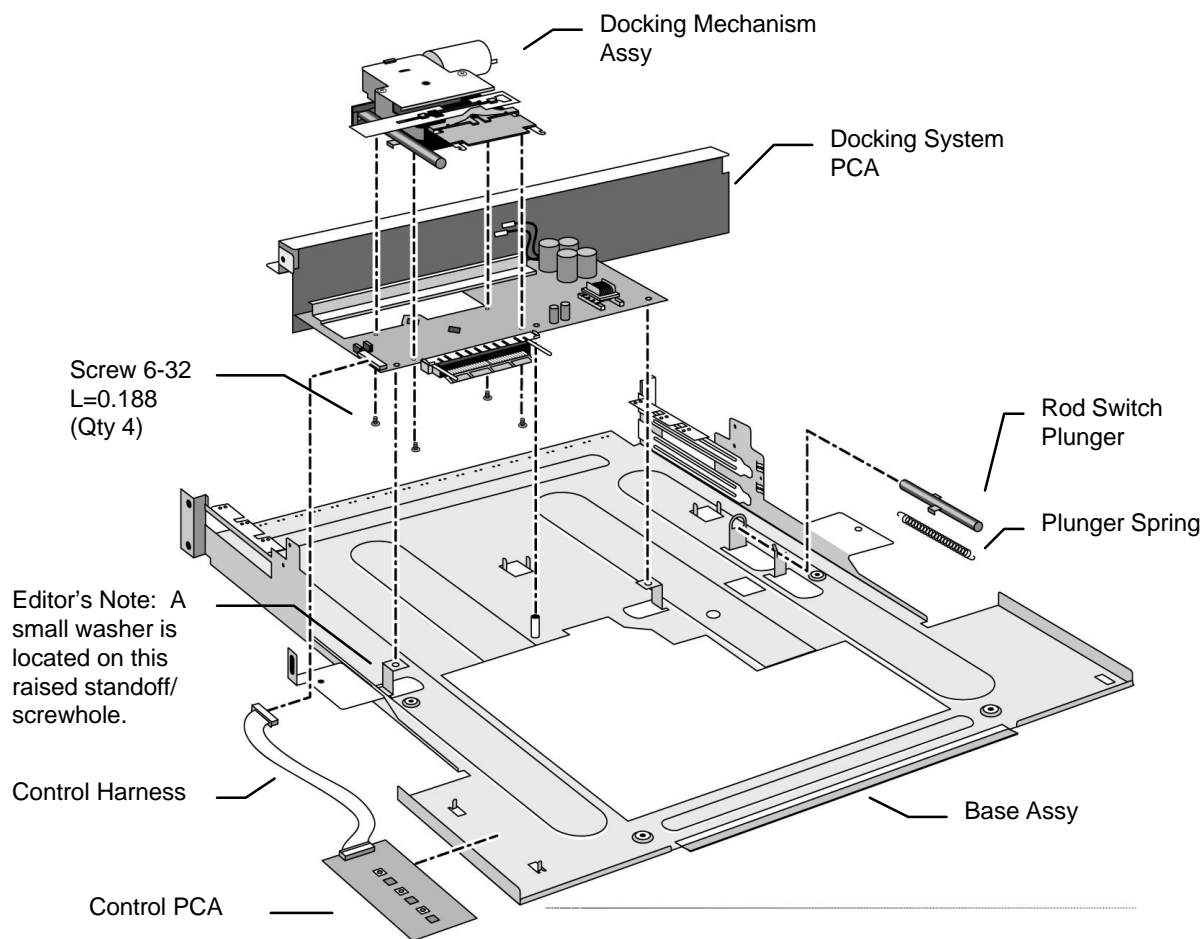

Figure 4 - Docking Station PCA, Docking Mechanism Assembly, and Control PCA
1. Disconnect the Control Harness from the Docking Station PCA (see Figure 4).
2. Remove the two 6-32 L=0.188 screws from front corners of the Docking Station PCA (screws not shown in Figure 4).